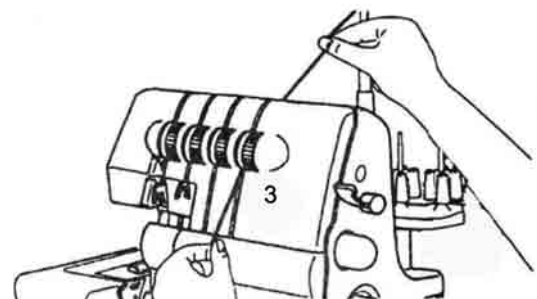

Fig. 21
3. Firmly hold the yarn with your fingers, guide it between and through the discs of the thread tension selector **17** and then pull it down (3) (Fig. 21).